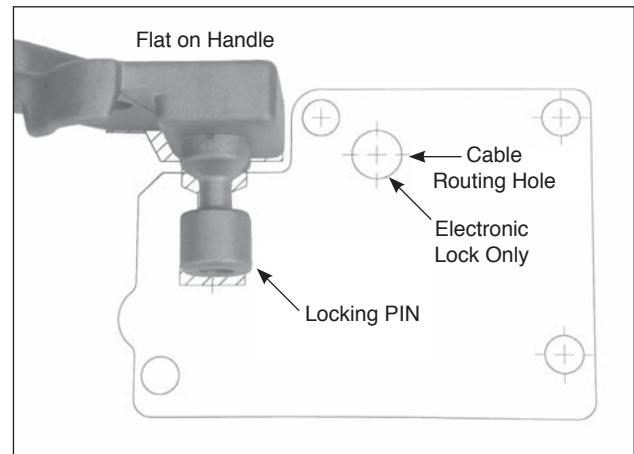

Fig. 8 - Align Template to Handle
2. Ensure the handle is level. Use the flat end of the handle. (See figure 8.)
2. Align template relative to the locking pin on the handle. (See Figure 8.)